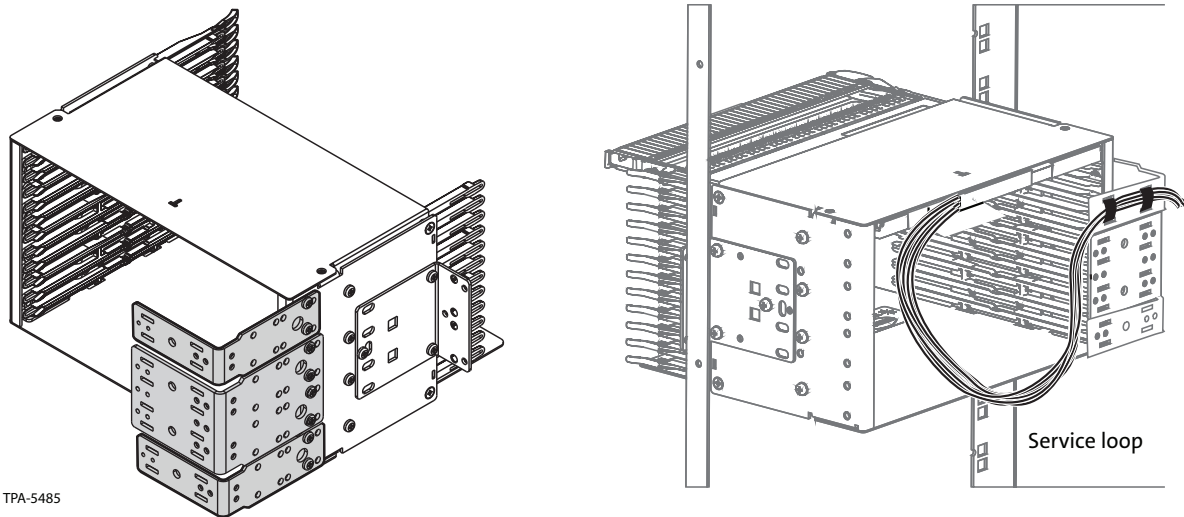

Figure 4
Step 9: If desired, attach up to four strain-relief brackets (CTX-KIT-SR-SA) to the housing as shown in Figure 4.
- b. Dress the jumpers with a service loop as shown in Figure 4 to provide slack to allow the cassette to be extracted to the detent position.